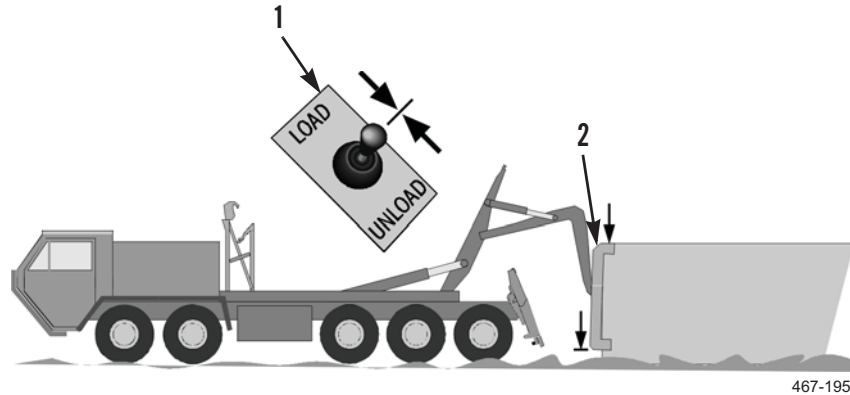

Figure 3. Upper Guides Positioned on Container.
- Release joystick (Figure 3, Item 1) as soon as lower section of lift frame (Figure 3, Item 2) starts to descend, while upper section remains stationary.